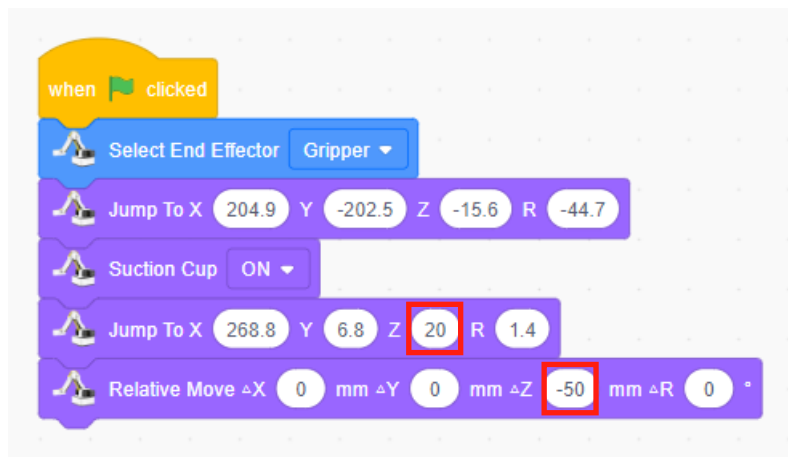

Figure 1.15 Position above the paperboards and the descending distance
Step 11: Click the "**Motion**" tab, drag the "Relative Move (X, Y, Z, R)" block and concatenate with the previous block. In the "relative motion (X, Y, Z, R)" block, the Z-axis coordinate is the decreasing height of 50, so Z is "-50" because the direction is downward, as shown in Figure 1.15.